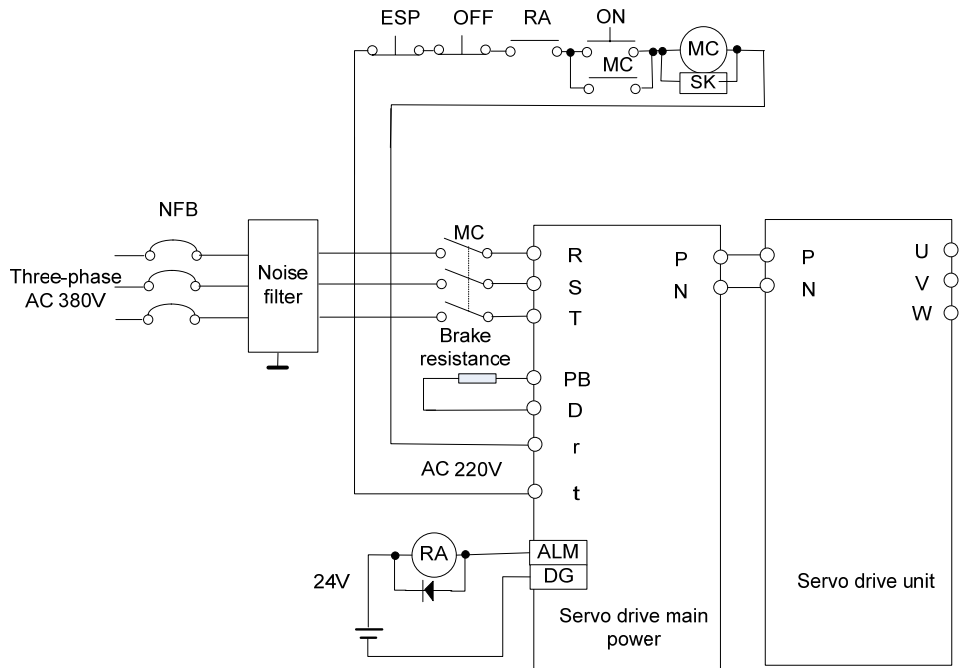

Fig.7-1 Drive unit power module connection diagram
- It is necessary to connect an ESP circuit to ensure the power can be immediately stopped when fault occurs (Refer to the Fig. 7-1).
Refer to the Fig. 7-1 for the power connection, and connect the power based upon the following sequence.